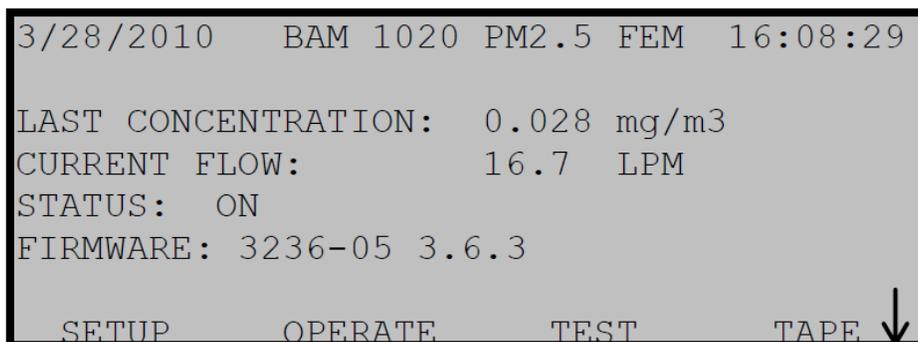

Figure 4-2. BAM 1020 home screen
2. Read the “Status” line when the self-test is complete. If it displays SELF TEST PASSED, select **EXIT** to return to the home screen (Figure 4-2).
3. If the status displays ERROR OCCURRED, look for an error in the individual test parameters. Resolve the error and repeat the self-test until it passes, then select **EXIT** to return to the home screen (Figure 4-2).
2. Measure the actual ambient temperature inside the radiation shield using a certified, NIST-traceable thermometer. Use the soft arrow keys to program it into the STD column of the ambient temperature (AT) line.
3. Select **NEXT** to navigate to the barometric pressure (BP) line. Measure the actual BP at the BAM inlet using a certified BP standard and program it into the STD column of the BP line.
7. Select **EXIT** to return to the home screen (Figure 4-2).
3. Use the soft arrow keys to set the BKGD value to 0.0000. Save and select **EXIT** to return to the home screen (Figure 4-2).
7. Press EXIT to return to the home screen (Figure 4-2).